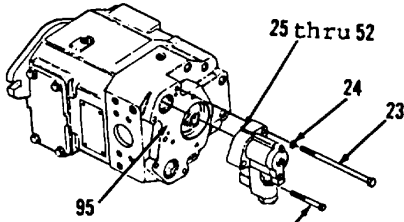

Figure 10-19.
- 77. Install items 52 thru 25 as an assembly, two lockwashers (24), bolts (23) and bolt (22) on head (95, Figure 10-19).